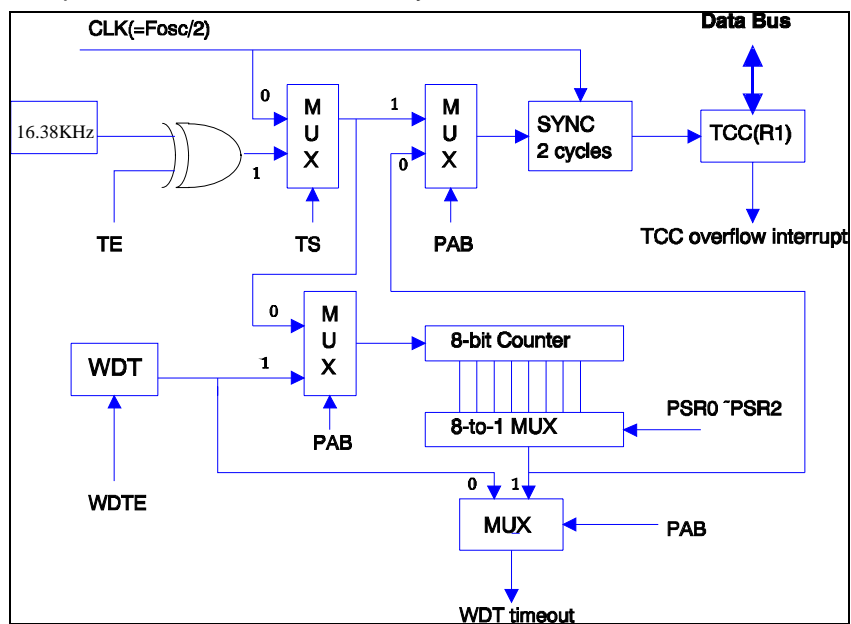

Fig. 7-7 Block Diagram of TCC/WDT
- Fig. 7-7 depicts the Circuit Diagram of TCC/WDT.